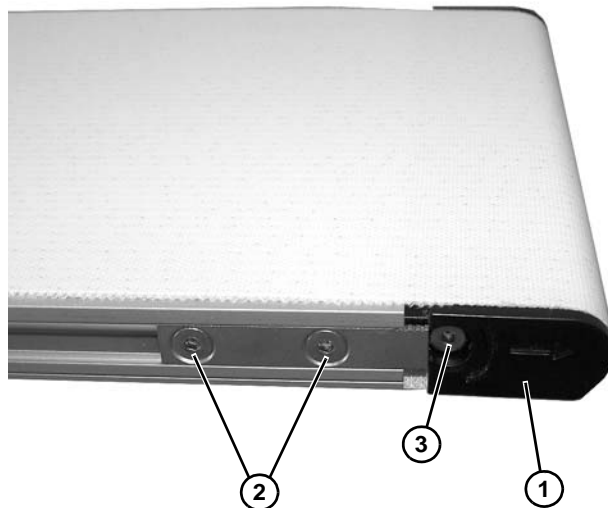

Figure 32
2. On both sides of the idler end (Figure 32, item 1) conveyor, loosen two (2) head plate fastening screws (Figure 32, item 2).
3. On both sides of conveyor, rotate belt tracking cam screw (Figure 32, item 3) to remove tension on belt.